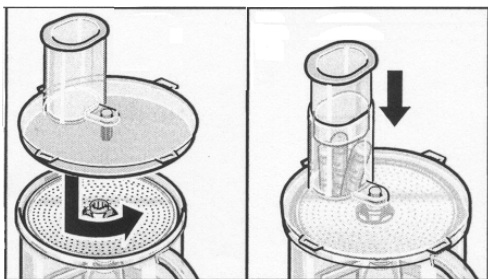

Figure 17.
- d. If stabilizing pin is not in cover, insert pin, see 15e. Then place cover on bowl, making sure the tabs on the cover enter the recesses in the bowl, and turn counterclockwise to stop, see figure 17.